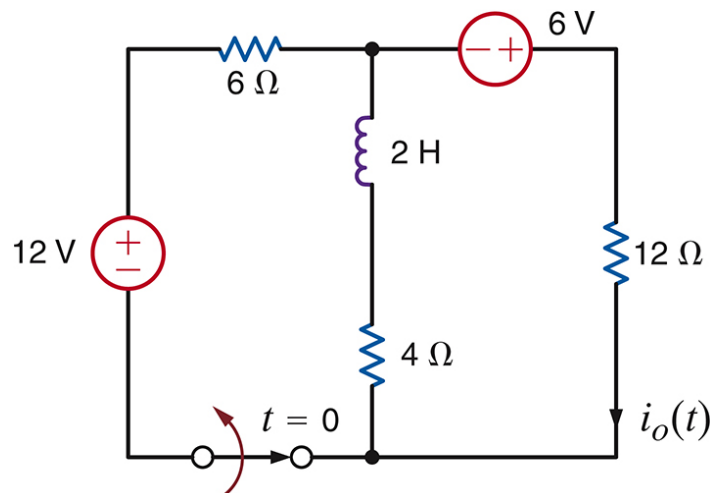

Figure 12: Circuit for Exercise 2
2) The switch in Figure 12 has been closed for a long time and is opened at $t = 0$. Calculate $i_o(t)$ for $t > 0$. Plot $i_o(t)$ versus time using MATLAB and include the plot in your report. Now simulate this circuit using MultiSim and plot $i_o(t)$ versus time. Include this plot in your report as well.